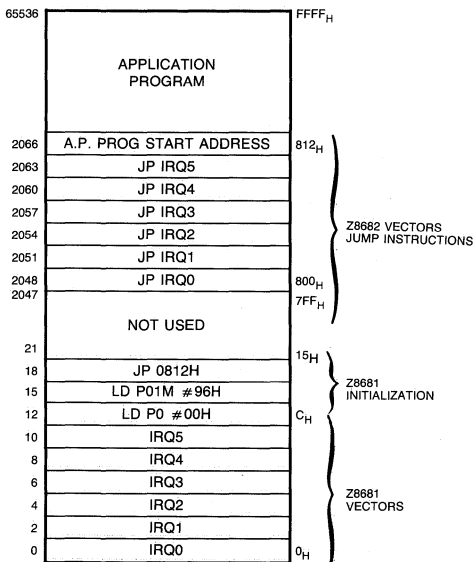

**Figure 15. RESET Circuit**
**External Interface.** The Z8682/4 requires a 7.5 V positive logic level on the  $\overline{\text{RESET}}$  pin for at least 6 clock periods immediately following reset, as shown in Figure 14. The Z8681 requires a 3.8 V or higher positive logic level, but is compatible with the Z8682/4  $\overline{\text{RESET}}$  waveform. Figure 15 shows a simple circuit for generating the 7.5 V level.